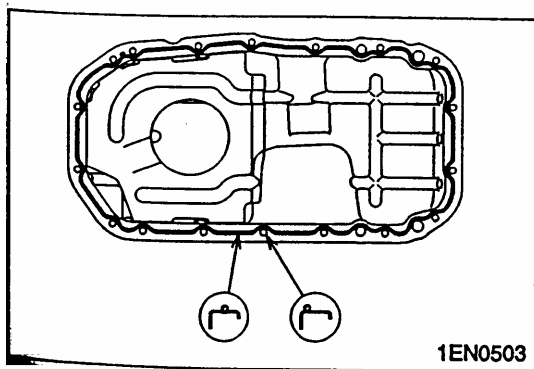

Fig.4-42
(3) OIL PAN INSTALLATION, see Fig.4-42